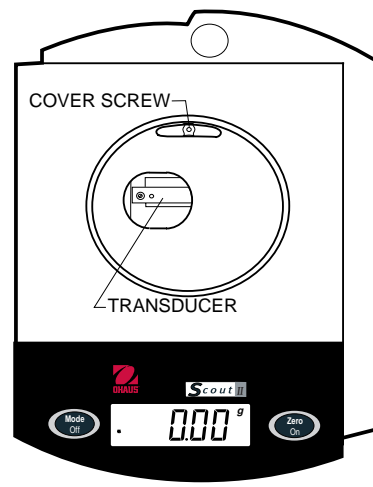

Figure 4-8. Cover Removal.
5. Disconnect the 9 volt Battery from the Connector inside the balance, remove it and replace the Battery Compartment Cover (3).
6. Remove the cover Screw (A) (see Figure 4-8). On some production units, two additional screws (D) located at the bottom of the Base (1) shown in Figure 5-1 have to be removed.